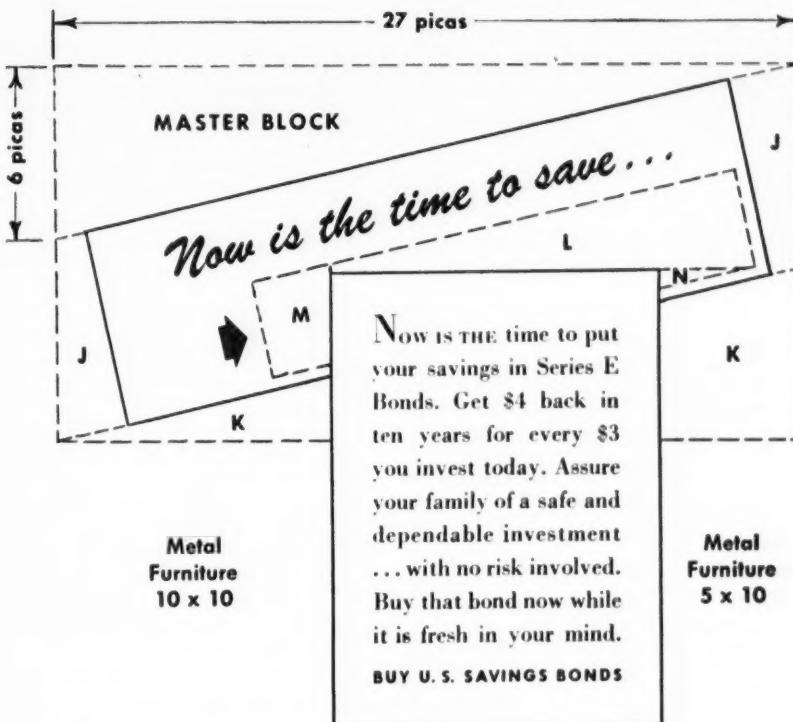

FIG. 12
The best way to show the proper procedure is by carefully following the explanation of Figure 12.
Several points, however, should be kept in mind when dealing with these complex angles. First, a master block involving the widest dimension is determined and cut (such as block A, Figure 5—see *THE INLAND PRINTER*, February, 1953, page 62). Second, once an angle has been cut and is correct, all other angles in the construction are derived from it. Third, there is no particular need to cut the small blocks to the depth indicated in Figure 12. The important point to remember is to cut to the proper width. Should the blocks be cut to smaller depth than indicated, they can be built up by using leads or slugs.
3. After one-point rule borders have been mitered, cut master block as per diagram in Figure 12. Size of the master block is 27 picas wide by 6 picas deep. Always remember that the wood is cut with the grain running the long way—27 picas. If this is not done, the result will be angle blocks which are weak and apt to break.
4. Cut at least six or seven blocks the same size as the master block. Portions of all of these blocks will be used in the construction of Figure 12.
If all the blocks are cut according to the explanation of Figure 12, it will result in excellent composition involving angles. However, it may be argued, and rightly so, that block L should have been cut to a point for a length of 16½ picas, necessitating a smaller block for M. This will result in a slightly different procedure for cutting block M. To accomplish this, simply place the 3½-pica piece on its hypotenuse and trim the wide end, thus making it conform with the angle already created by extension of block L.
If the learner has attempted to reconstruct the example of Figure 12, it would be a good idea to try blocks L and M both ways. There are many constructions in which it will be found necessary to cut an end of a block to conform to another block merely by